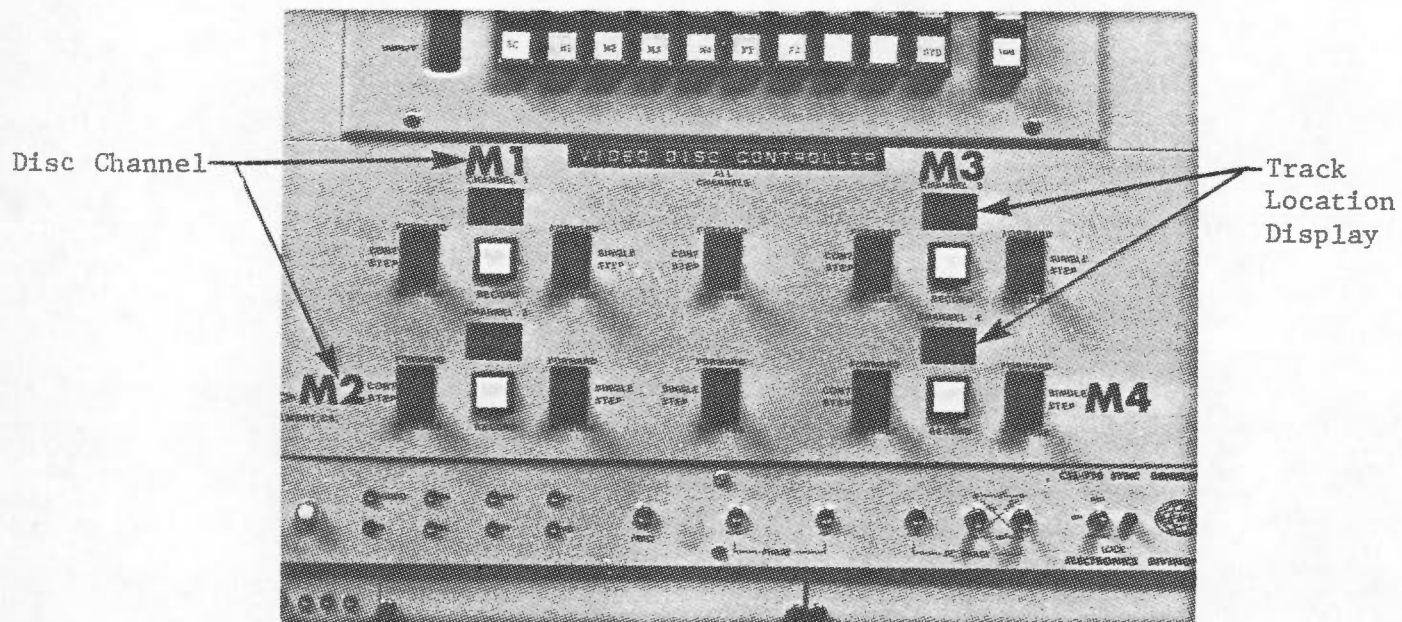

FIGURE 4.1. Video Disc Controller
1. When the disc is switched on (Section 2 on PAS Start-Up) the lighted displays showing the track number on **M1, M2, M3, and M4** will come on (Figure 4.1).